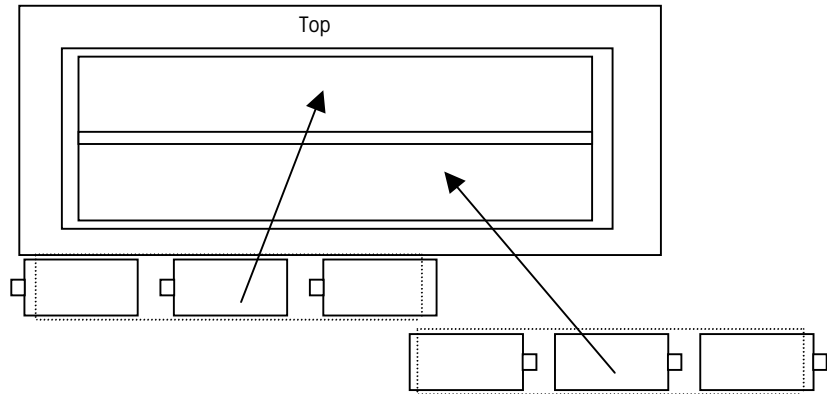

Figure 5-3: Shown With Rear Battery Panel Removed
5. Insert six new or recharged size-D batteries into the sleeves and install as illustrated on the battery housing (also shown in Figure 5-3).